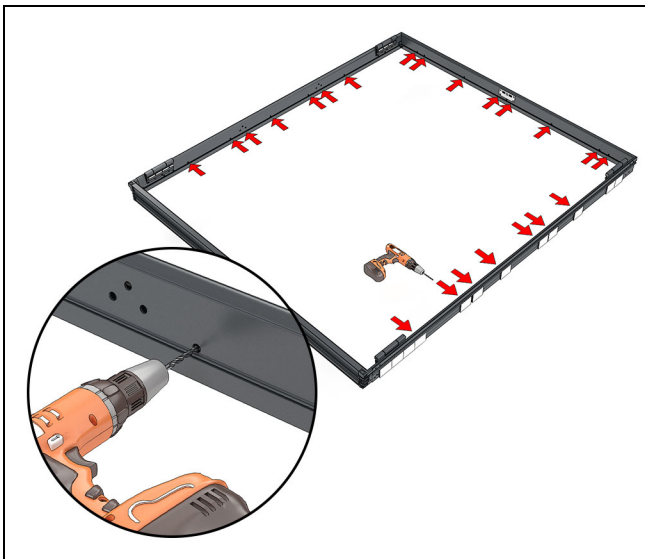

Figure 24
11. Pre-drill through the shim blocks with a 3/16" (5) drill bit. Drill through all jamb screw installation holes, panel alignment bolt holes, hinge holes, and all strike holes that have a shim block behind it. **If there is no shim block behind the hardware, DO NOT drill through the installation hole.** See Figure 24.